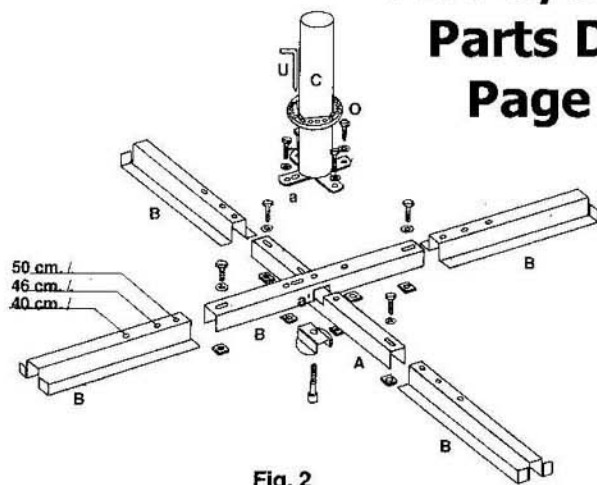

Fig. 2
ROTATION OF THE UMBRELLA AROUND THE BASE (fig. 5 - fig. 2)
IMPORTANT: The key (U) must be inserted into the adjustment ring (O) at hole (a) of the base pole (C) (fig. 2).